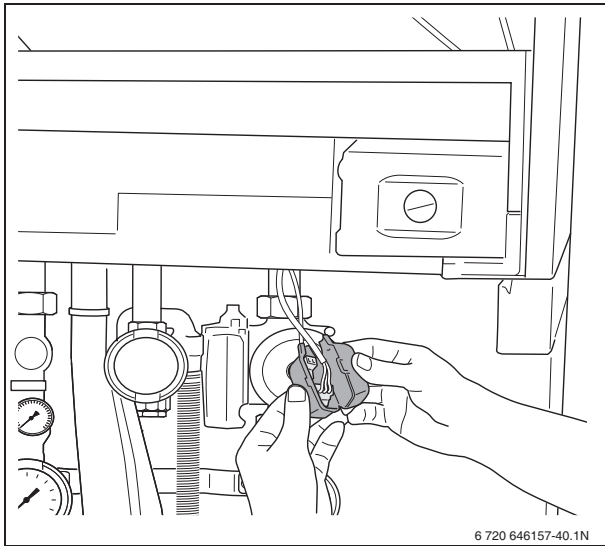
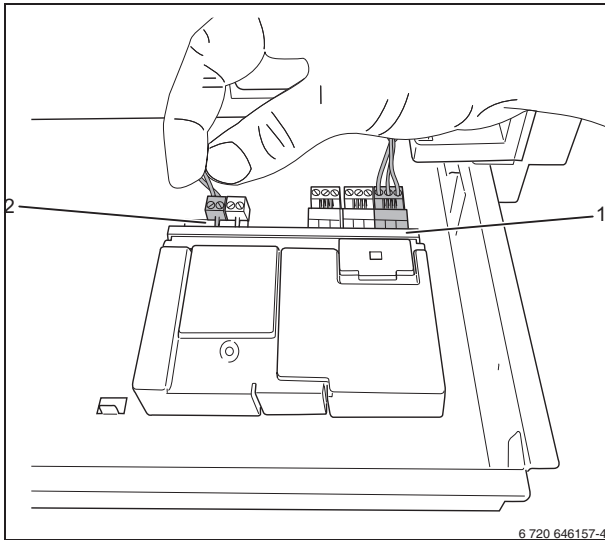
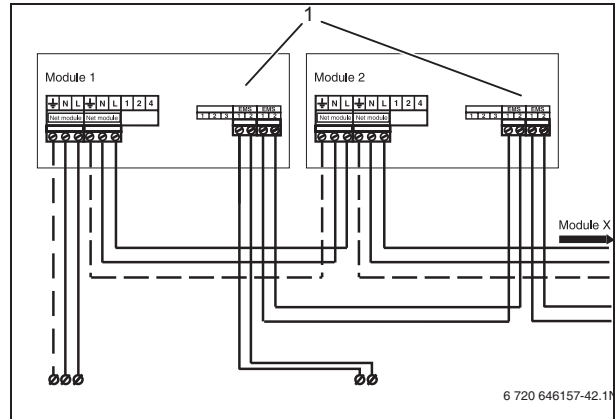

Fig. 40 Removing the covers
Fig. 41 Interconnecting modules
Fig. 42 Connecting several modules
- Remove the covers of both free connectors on the function module connection cables (fig. 40).
- Connect the free 120 VAC mains cable (fig. 40) to the module (fig. 41, [1]). If more modules are used, the 120 VAC supply for the second module can be taken from the first module using the cable enclosed with the module.
- ▶ The module may have the letters RC or EMS above the connection (fig. 42, [1]).
- Connect the free connector of the EMS bus connecting cable (fig. 41) to the first module (fig. 42).
- If more modules are used, the EMS bus connection for the second module may be branched off from the first module using the cable enclosed with the module (fig. 41 & fig. 42).
- ▶ Connect the wire from terminal 1 to terminal 1 and from terminal 2 to terminal 2 (fig. 41 and fig. 42).
- ▶ Connect the wire from terminal 1 to terminal 1 and from terminal 2 to terminal 2 (fig. 41 & fig. 42).